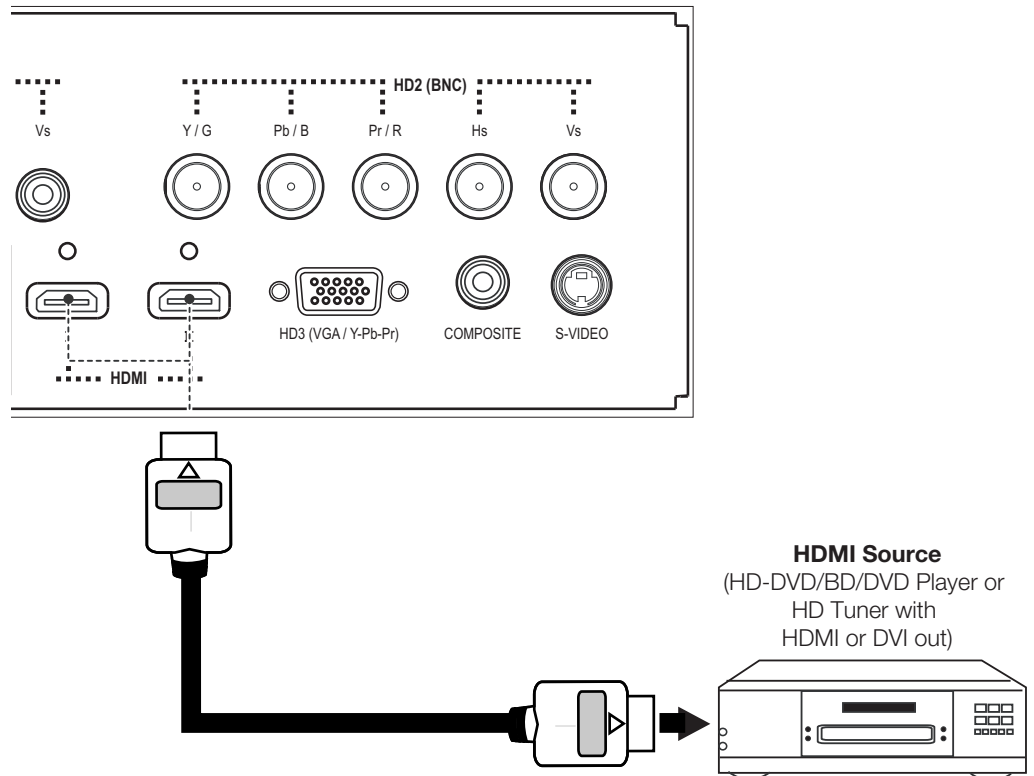

**Figure 3-11. HDMI Source Connections**
**HDMI Connections:** See Figure 3-11.